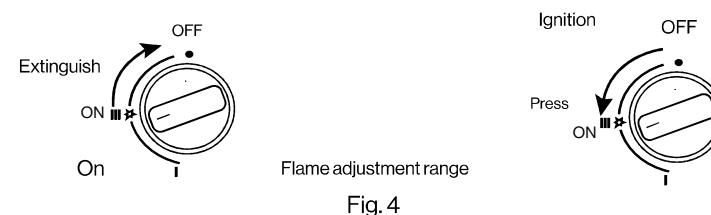

Fig. 4
4. Flame can be adjusted between "ON" and "OFF". Please adjust flame slowly, should adjust the fire clockwise and counterclockwise. (Fig.4)
5. Adjust simmer flame between "ON" and "I". (Fig.4)